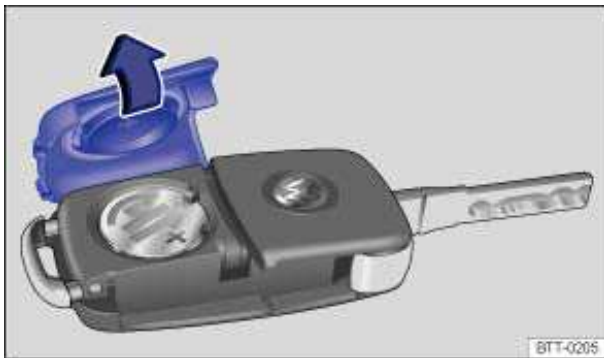

Fig. 28 Remote control vehicle key: Open battery compartment cover.
The battery is on the back of the remote control vehicle key under a cover ⇒ fig. 28.
- Position the cover as shown ⇒ fig. 28 and press it down (opposite to direction of the arrow) until you hear it click into place.